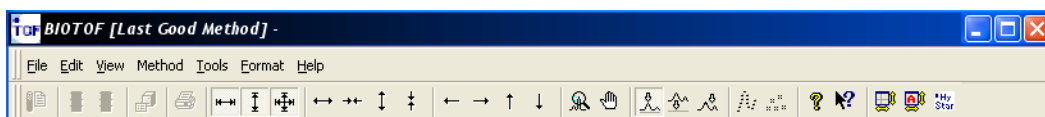

Figure 5-10 BioTOF Menu Bar and Tool Bar
This section lists the BioTOF functions available from the menu bar and tool bar (Figure 5-10).
- Choose **View > Tool Bar** to toggle the display of the BioTOF tool bar (Figure 5-10) on and off.